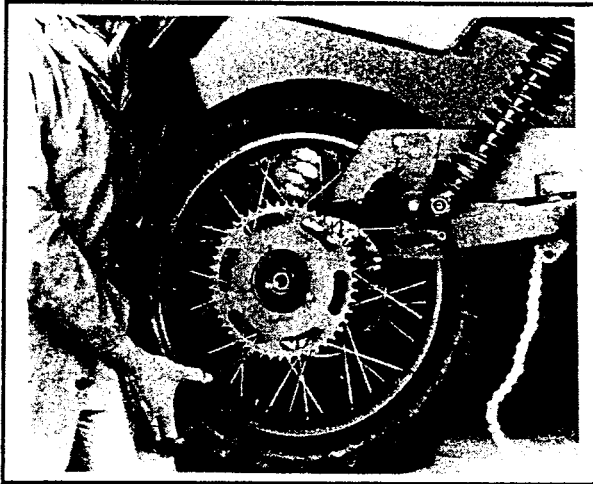

Figure 5-54. Remove Rear Wheel and Tire
7. See Figure 5-54. Remove rear wheel and tire from swing arm.